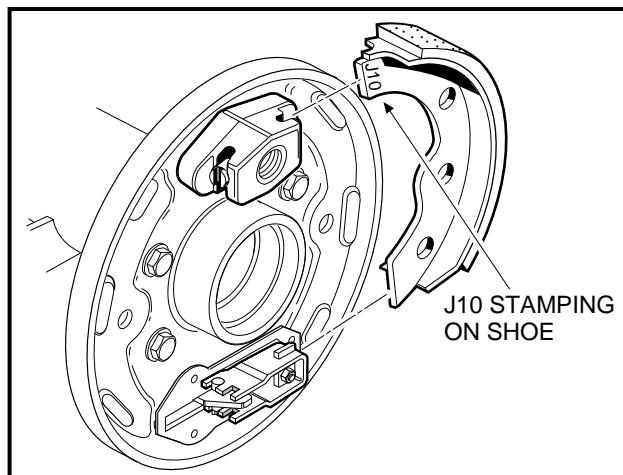

Figure 6-10 Position Shoes
1. Position one shoe in the slots in the mounting block anchor piston and brake actuator (**Figure 6-10, Page 6-5**). See following **WARNING**.
- When installing brake shoes, the shoes must be oriented with tips stamped **J10** inserted into the mounting block anchor piston slots rather than into the brake actuator slots (**Figure 6-10, Page 6-5**). Incorrectly installed brake shoes will be too tight and make adjustment of the brake impossible.